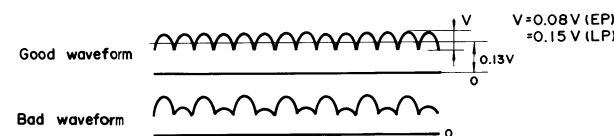

Figure 53-2
1) HALL DEVICE (Refer to Figures 53-2 and 54-2)
2. Adjust the semi-variable resistor (VR1104) so that good waveform indicated in Figure 53-2.